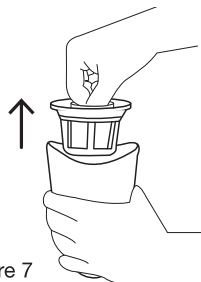

Figure 7
2. Pull the F5 fine particulate filter/pre-filter unit out of the container (Fig. 7).